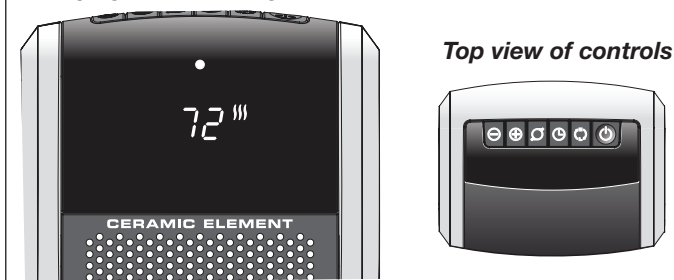

Figure 1
3. When the Heater is initially plugged in, there will be a "beep" and the **Power Light** will come on indicating that there is power to the unit. The **Power Light** will remain lit until the Heater is unplugged from the electrical outlet. (Figure 1)
6. Upon turning the Heater on, the unit will be in HIGH heat (⏻) (1500 Watts) and will display the current room temperature. (Figure 1)